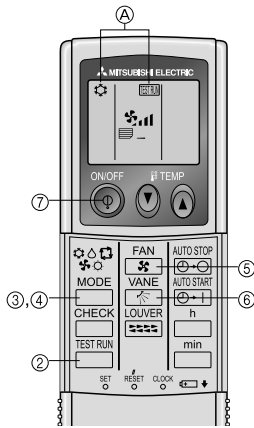

Fig. 6-2
6.2.2. Using wireless remote controller (Fig. 6-2)
- ① Turn on the power to the unit at least 12 hours before the test run.
- ② Press the  button twice continuously.